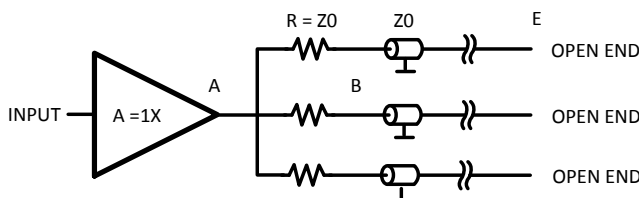

Figure 38.
- Use one buffer to drive several transmission lines each driving a different receiver. (see Figure 38)
Another way to reach several points via a transmission line is to start several lines from one buffer output (see Figure 38). This is possible only if the output can deliver the needed current into the sum of all transmission lines. As can be seen in this figure there is a series termination used at the beginning of the transmission line and the end of the line has no termination. This means that only the signal at the endpoint is usable because at all other points the reflected signal will cause distortion over the line. Only at the endpoint will the measured signal be the same as at the startpoint. Referring to Figure 41 trace C, the signal at the beginning of the line has a value of  $V/2$  and at  $T = 0$  this voltage starts traveling towards the end of the transmission line. Once at the endpoint the line has no termination and 100% reflection will occur. At  $T = 10$  the reflection causes the signal to jump to  $2V$  and to start traveling back along the line to the buffer (see Figure 41 trace D). Once the wavefront reaches the series termination resistor, provided the termination value is  $Z_0$ , the wavefront undergoes total absorption by the termination. This is only true if the output impedance of the buffer/driver is low in comparison to the characteristic impedance  $Z_0$ . At this moment the voltage in the whole transmission line has the nominal value of  $2V$  (see Figure 41 trace E). If the three transmission lines each have a different length the particular point in time at which the voltage at the series termination resistor jumps to  $2V$  is different for each case. However, this transient is not transferred to the other lines because the output of the buffer is low and this transient is highly attenuated by the combination of the termination resistor and the output impedance of the buffer. A simple calculation illustrates the point. Assume that the output impedance is  $5\Omega$ . For the frequency of interest the attenuation is  $V_B/V_A = 55/5 = 11$ , where A and B are the points in Figure 38. In this case the voltage caused by the reflection is  $2/11 = 0.18V$ . This voltage is transferred to the remaining transmission lines in sequence and following the same rules as before this voltage is seen at the end points of those lines. The lower the output resistance the higher the decoupling between the different lines. Furthermore one can see that at the endpoint of these transmission lines there is a normal transient equal to the original transient at the beginning point. However at all other points of the transmission line there is a step voltage at different distances from the startpoint depending at what point this is measured (see trace D).